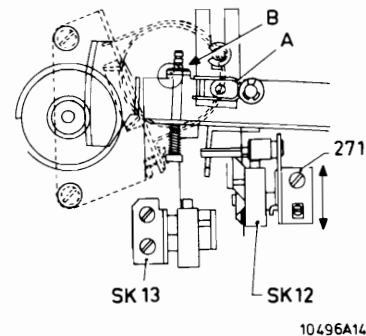

Fig. III-17
Check if after the threading out procedure SK12 is only then operated when spring item A (Fig. III-17) is under tension. If not, mounting bracket item 271 of the switch SK12 must be moved.